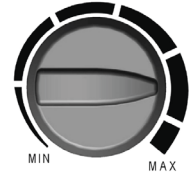

FIG. 4
- The temperature in the room may be set by means of the control knob(Fig. 4). Once the pre-set temperature is produced, the thermostat will automatically switch the heating elements off while the fan will continue to operate thus protecting the appliance from overheating. If the temperature falls down beyond the pre-set value, the system will